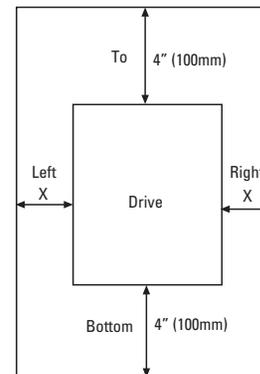

Fig. 2-2-1 30 HP or less: Gap X can be 0. (side-by-side installation) 40HP or more: Gap X >= 2.0" (50mm)
1. Securely fasten the product in an upright position on a solid structure with the logo facing the front. Do not turn the product upside down or install in a horizontal position. Fig. 2-2-1
2. Since heat is generated during drive operation, the spaces shown in Fig. 2-2-1 are required to ensure sufficient cooling. Do not install the product beneath a device sensitive to heat as heat radiates upward.